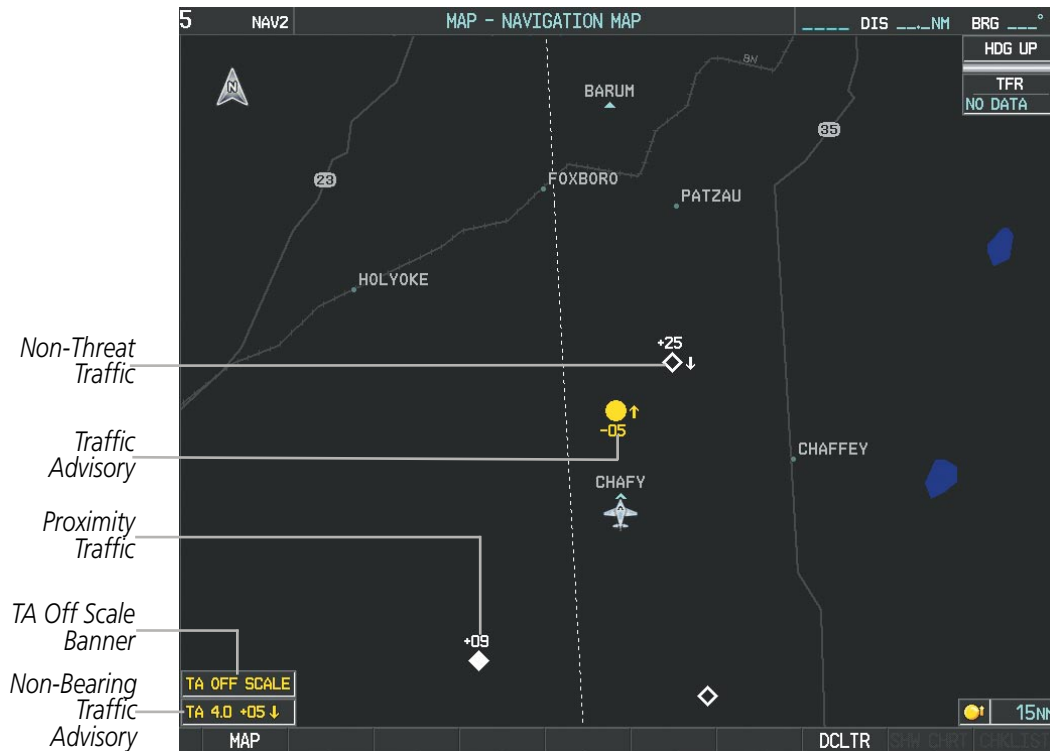

Figure 6-93 TAS Traffic on Navigation Map
- 2) Press the **TRAFFIC** Softkey. Traffic is now displayed on the map as shown in Figure 6-93.